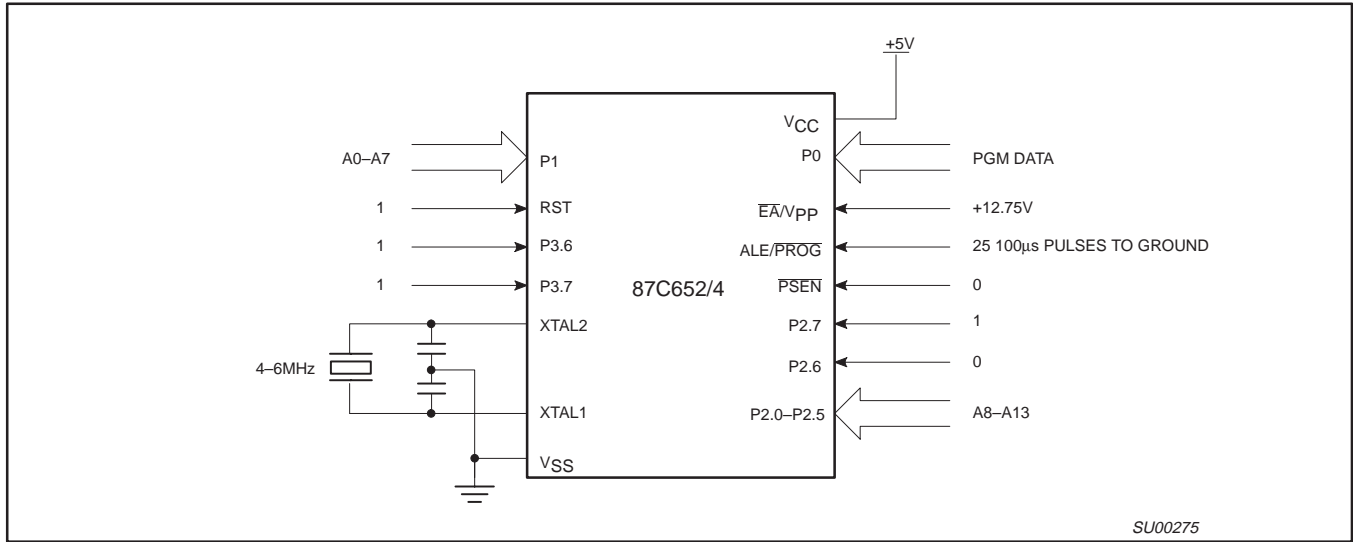
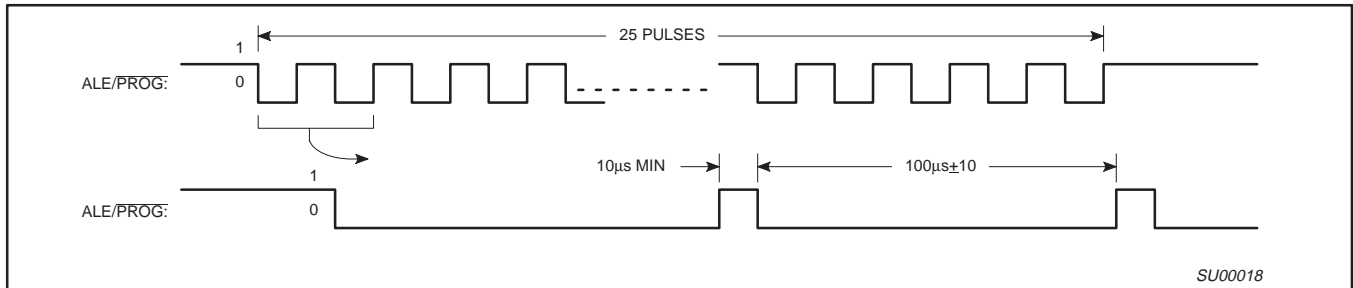
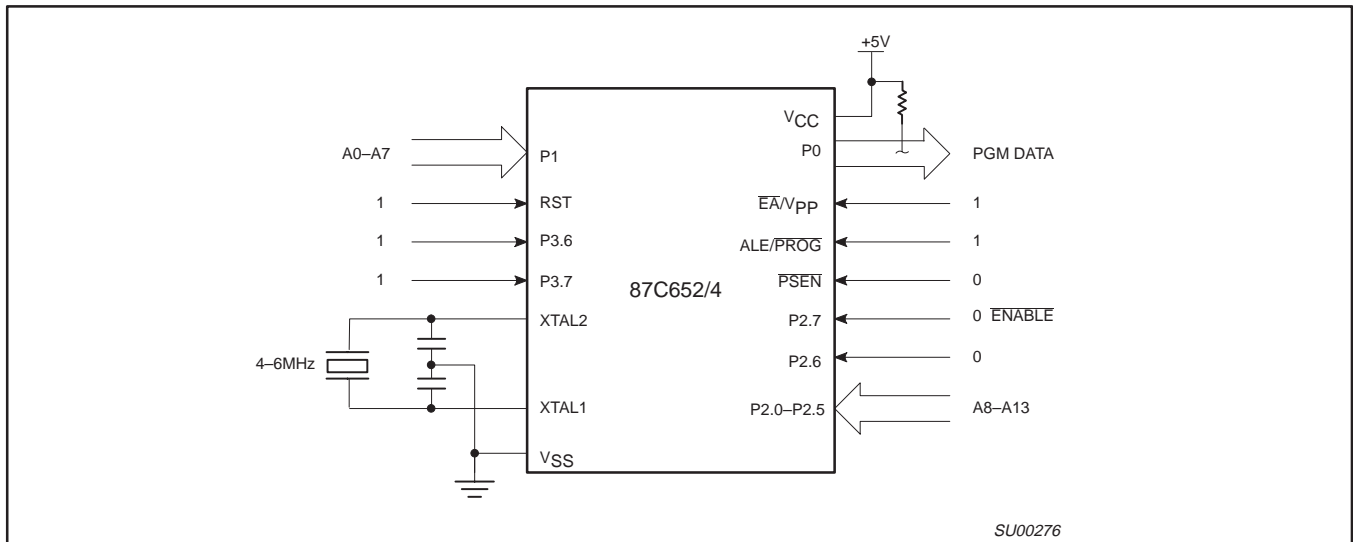

Figure 12. Programming Configuration
Figure 13. PROG Waveform
Figure 14. Program Verification
Table 4 shows the logic levels for reading the signature byte, and for programming the program memory, the encryption table, and the lock bits. The circuit configuration and waveforms for quick-pulse programming are shown in Figures 12 and 13. Figure 14 shows the circuit configuration for normal program memory verification.
The setup for microcontroller quick-pulse programming is shown in Figure 12. Note that the 87C652/87C654 is running with a 4 to 6 MHz oscillator. The reason the oscillator needs to be running is that the device is executing internal address and program data transfers.
shown in Figure 12. The code byte to be programmed into that location is applied to port 0. RST, PSEN and pins of ports 2 and 3 specified in Table 4 are held at the 'Program Code Data' levels indicated in Table 4. The ALE/PROG is pulsed low 25 times as shown in Figure 13.
program verification. The address of the program memory locations to be read is applied to ports 1 and 2 as shown in Figure 14. The other pins are held at the 'Verify Code Data' levels indicated in Table 4. The contents of the address location will be emitted on port 0. External pull-ups are required on port 0 for this operation.
* FOR PROGRAMMING VERIFICATION SEE FIGURE 12.
FOR VERIFICATION CONDITIONS SEE FIGURE 14.